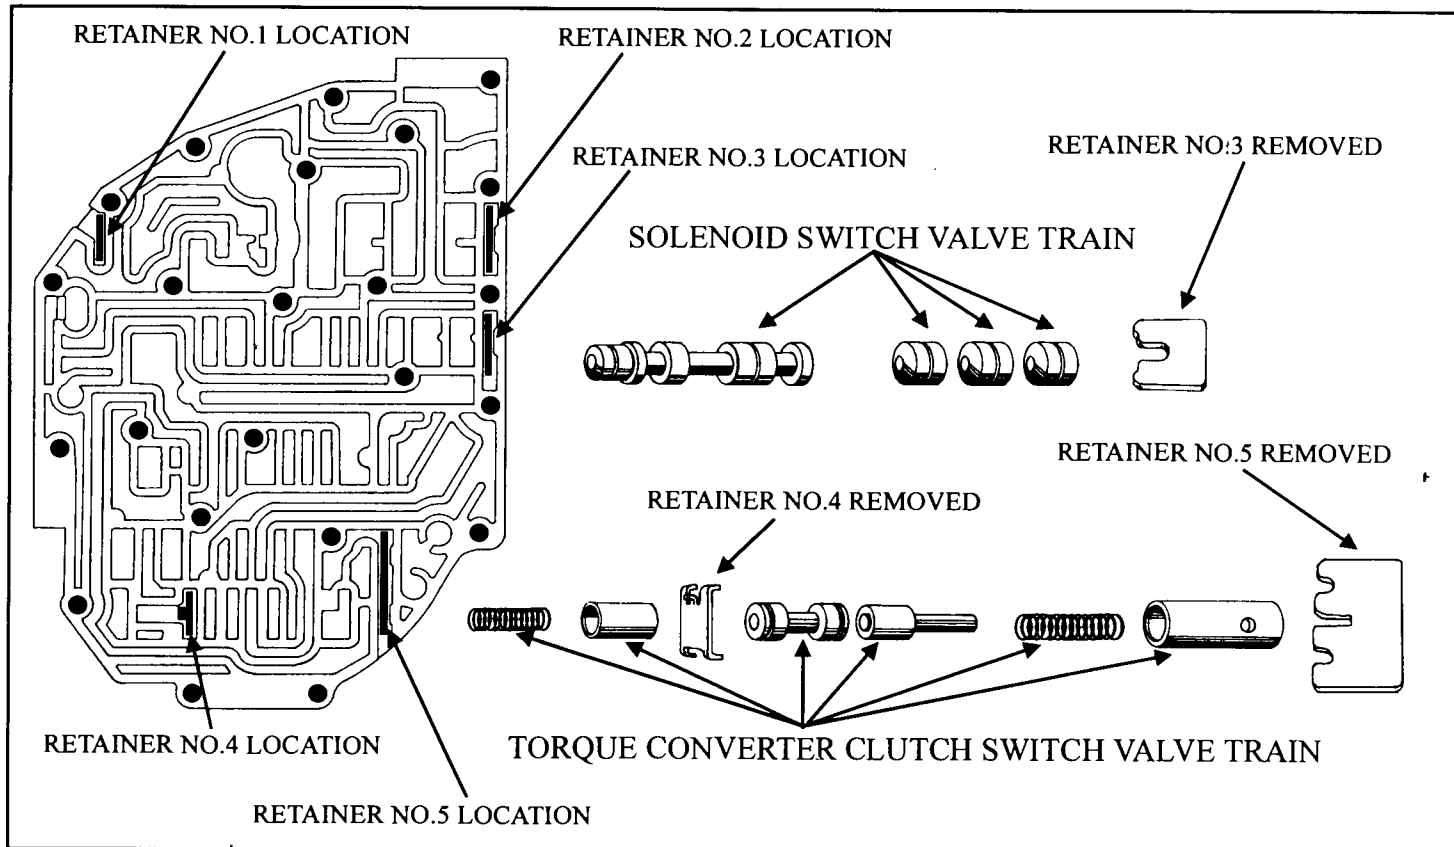

Figure 48
- Inspect the valve body for a stuck Solenoid Switch Valve or a missing # 3 retainer (See Figure 48).